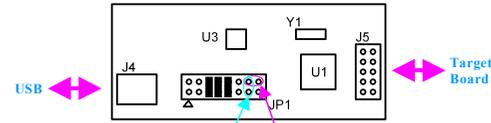

Fig.3 Close 13-14 to power target board with 3.3V Close 16-14 to power target board with 5V
3. Use as USBASP Programmer [Fig.3]
- 4) Select power options for target board. Target board can be powered from USB but USB power is limited. To reduce the risk of damage USB it is recommended to have your target board self-powered. If you are sure your target board power consumption is small enough and want to use USB as power for the programming then you can select jumper settings to choose voltage that matches your board. See details in Fig.3.